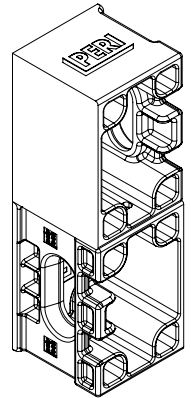

Fig. B5.10c
- wall thickness compensation 10 cm (Fig. B5.10c)